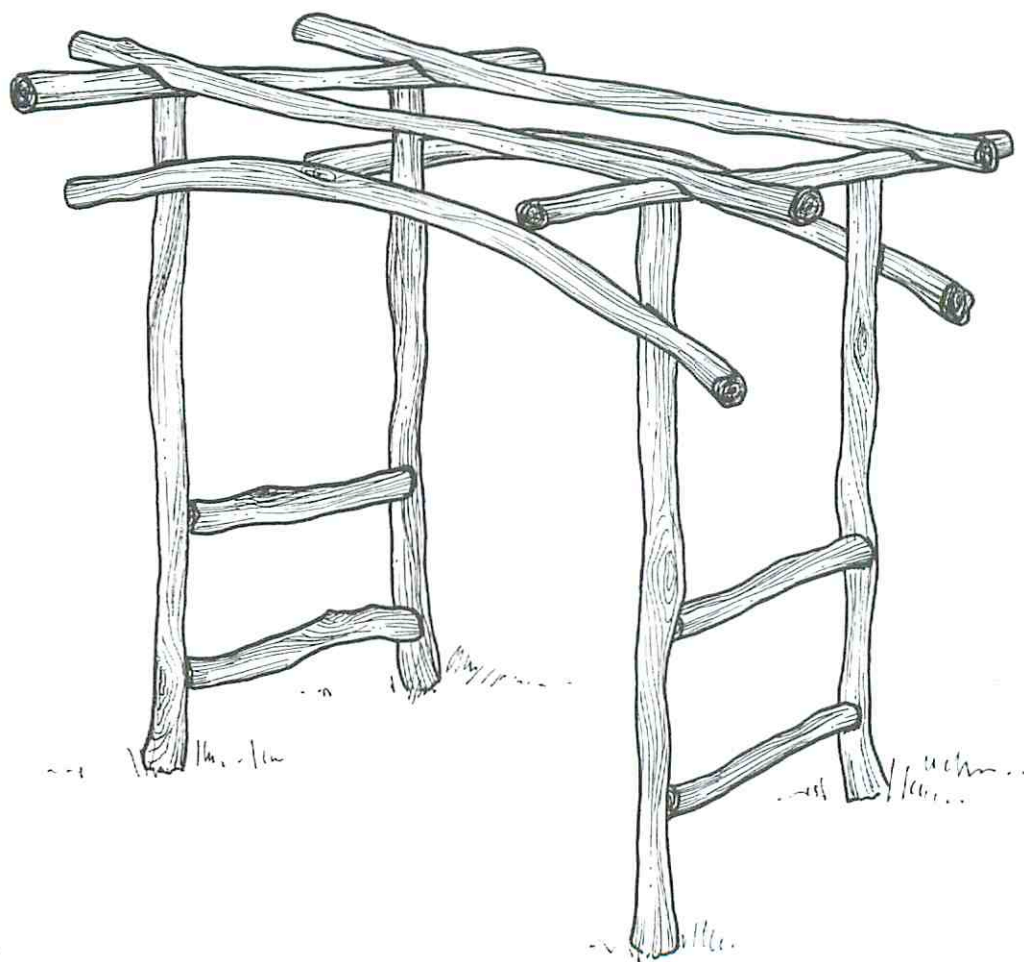

Figure 2
lower crosspieces (E). Once again, predrill and lag bolt them in place. See Fig. 2.